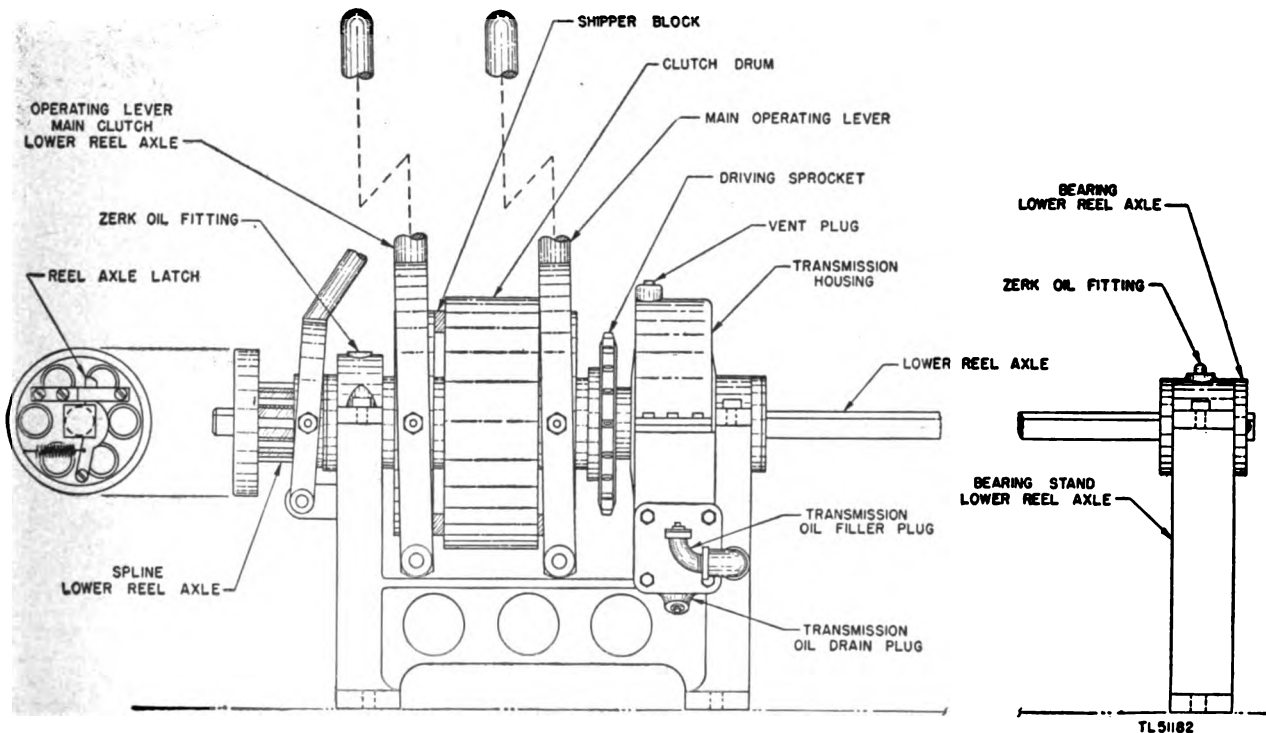

Figure 25. Transmission system of Reel Unit RL-26- ().
17. Transmission System (fig. 25)
20. Secondary Clutches (figs. 25 and 26)